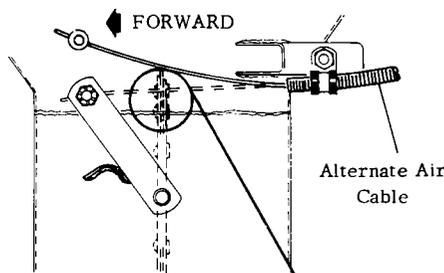

Figure 2
2. With the alternate air cable disconnected, ascertain that the valve is fully open when the arm is against the stop as shown in Figure 2, and that the valve is properly installed in the induction tube as shown in Detail A.
3. If the valve is fully open as in Figure 2, but not installed in accordance with Detail A, disassemble the valve from the arm assembly by drilling out the four rivets and re-install in accordance with Detail A using new Rivets MS20470AD3-8.
4. If the valve is not fully open as shown in Figure 2, it will be necessary to disassemble the valve from the arm assembly and replace the existing arm with a new arm assembly, P/N 32343-00 and reassemble per Figure 2 and Detail A.